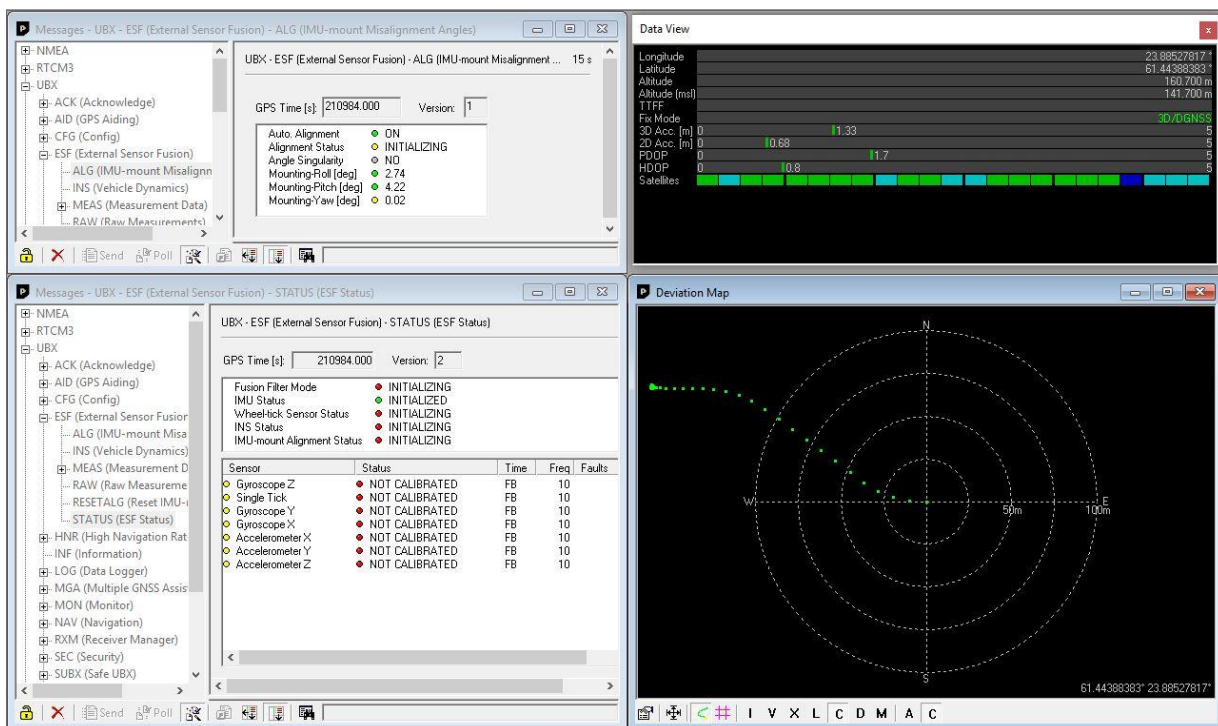
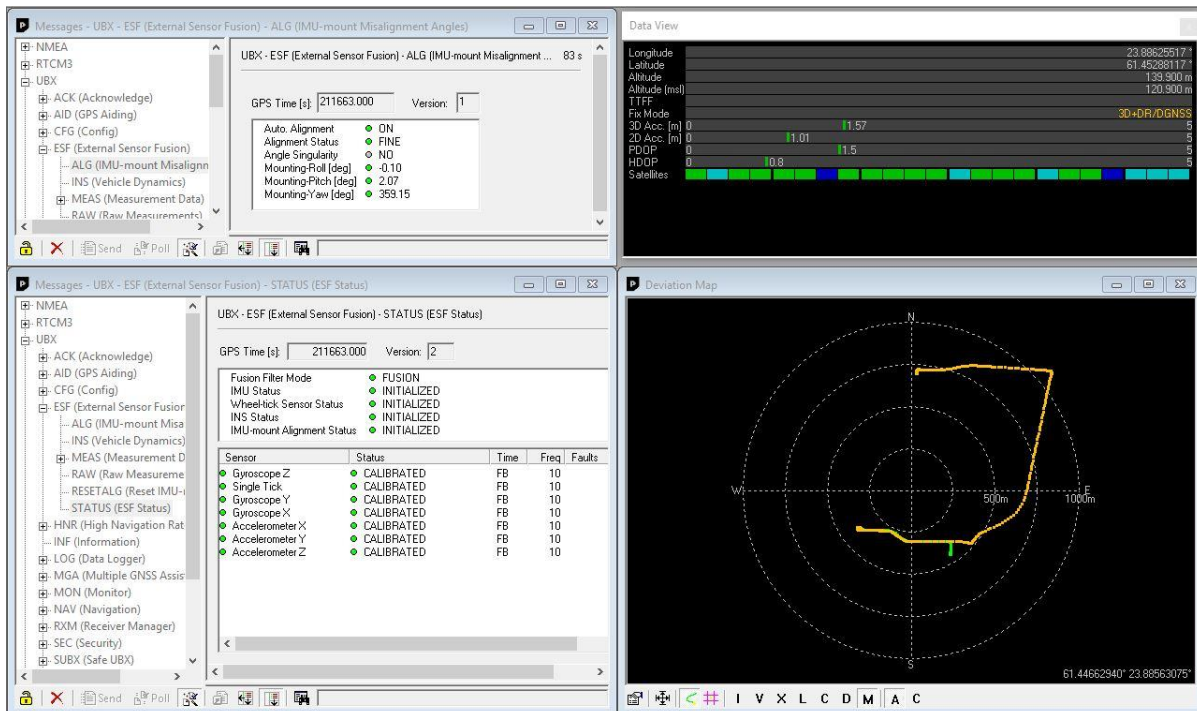

Figure 9: Starting the drive sequence
Figure 10: All sensors have reached Calibrated status. The setup is ready for test drives.
- **Phase I.** Stop the car, but keep the engine running. Power on the EVK-M8L, for example via USB to PC. The co-driver should open u-center and enable the messages and views shown in Figure 9. Wait for a good GNSS position fix. Stand still for another 3 minutes.
Figure 9 and Figure 10 show the progress of sensor-mount configuration and calibration drive.